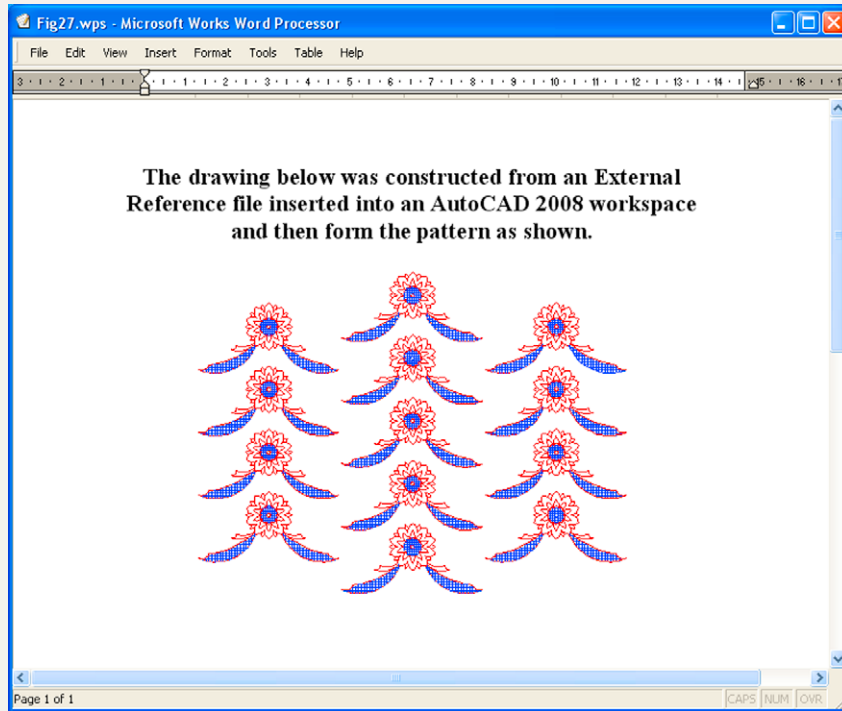

Fig. 10.31 Exercise 4 – an example
- Using Copy from the Insert drop-down menu, copy a drawing from AutoCAD 2010 into a Microsoft Word document. An example is given in Fig. 10.31. Add some appropriate text.